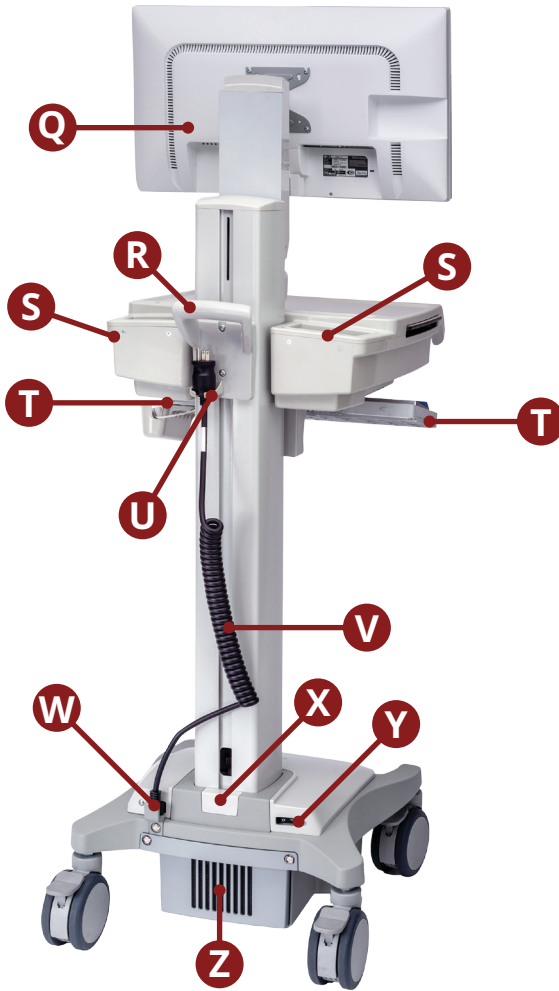

Figure 2: Components of Trio Carts (rear view)
1. Remove the protector covering the power jack (**W** on Figure 2, page 12) by removing the slotted D-Ring screw that secures it to the cart.
4. Put the plug in the power cord holder (**U** on Figure 2, page 12).
Turn on the power switch, located on the left rear side of the base (**Y** on Figure 2, page 12).